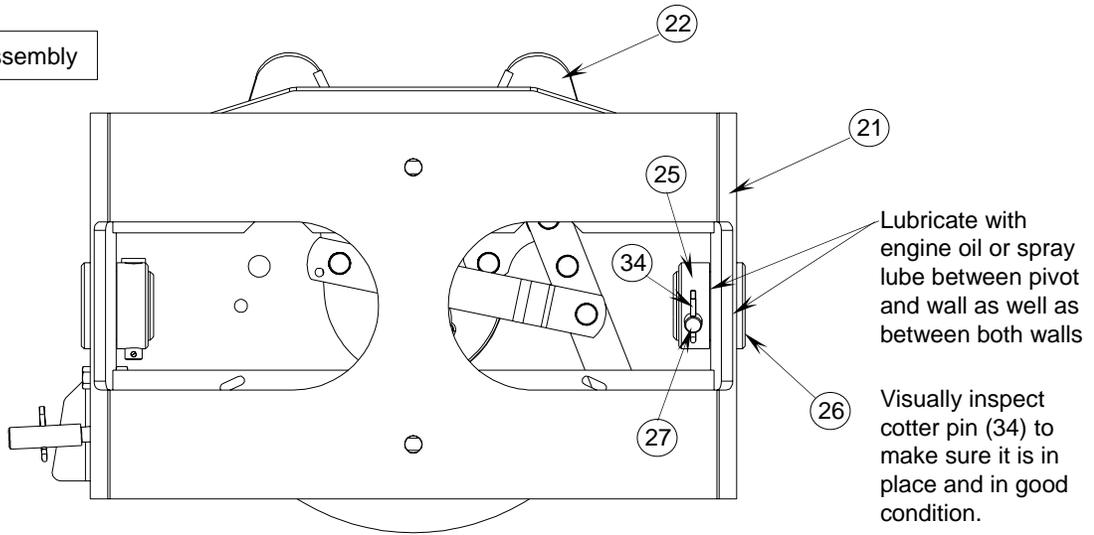

Fig. 21
5. Visually check head pivot connection (26). Inspect cotter pins (34) in pivots to make sure they are in place and in good condition (See Fig. 21).